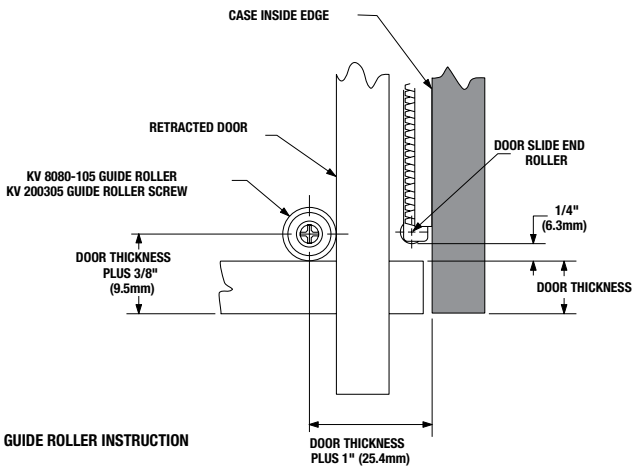

figure 11
- Recommended maximum door dimension: 26" wide x 72" high. For some types of door construction where door center bow may be an issue, a third slide may be used (see fig. 11) .